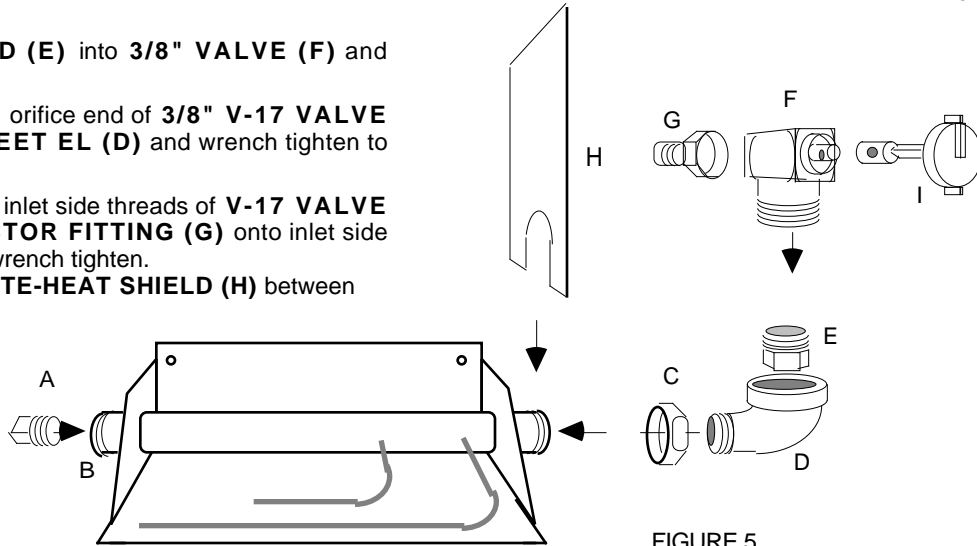

FIGURE 5
1. Ensure that **MANUAL V-17 VALVE** is completely closed. (See FIGURE 5)